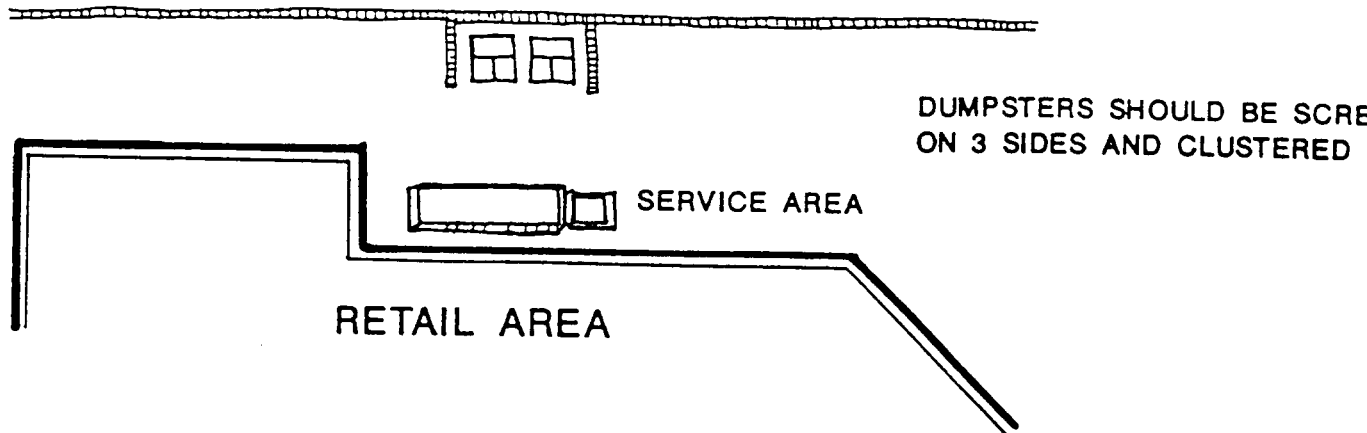

FIGURE 7
- Trash containers should be located in appropriately screened central service areas. (See Figure 7.)